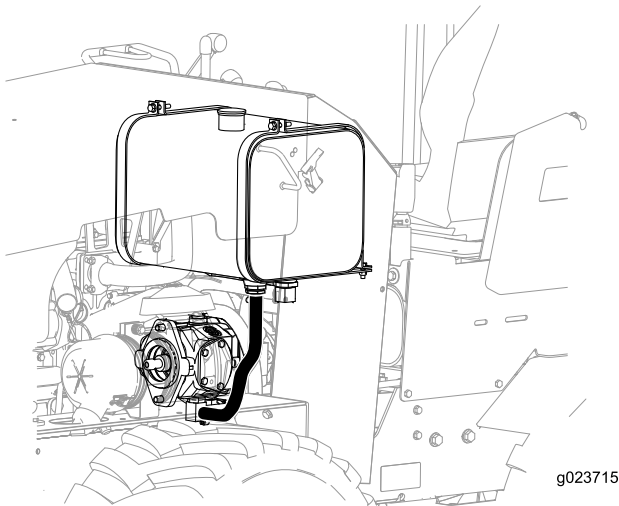

Figure 43
5. Pinch the hose shown in Figure 43 and remove the clamp on the other end attached to the tee adapter.
12. Install the hose shown in Figure 43.